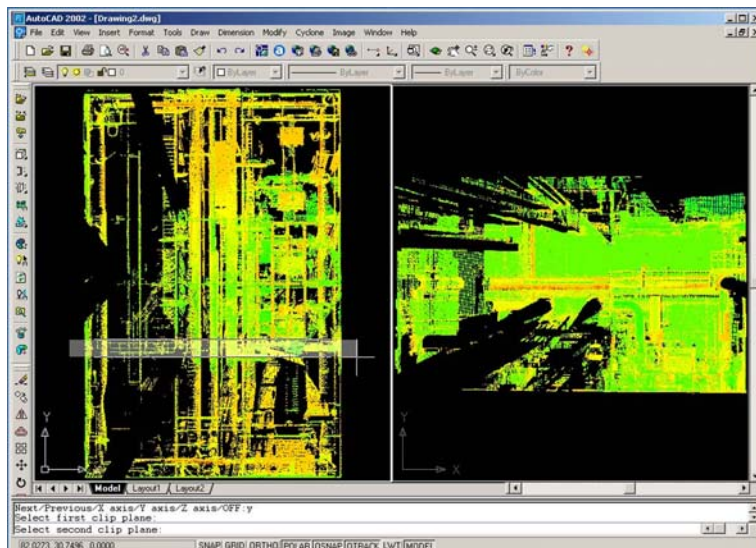

Figure 5.
3. Specify the parallel extents of the slice with two left mouse clicks. The slice should be in the approximate area highlighted in *Figure 5*.